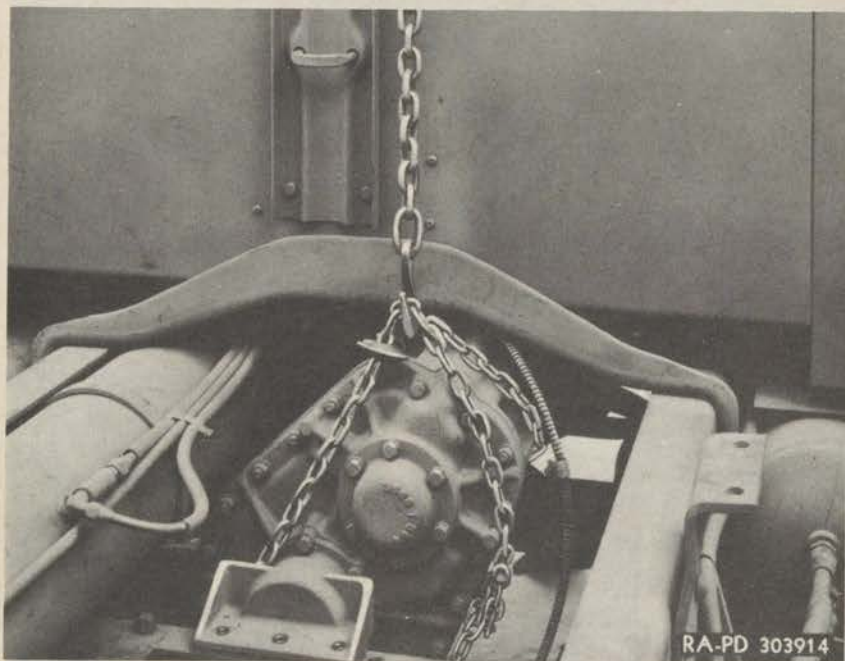

Figure 100—Lifting Transfer on Hoist
i. **Position Hoisting Chain.** Remove the cap screw holding the hand brake cable clip to the transfer case, and swing the cable and clip out of the way. Wrap a chain around the idler shaft rear bearing cap and the main shaft front companion flange. Attach this chain to a hook on the hoist, and lift a sufficient amount to cause a slight strain to permit of the removal of the mounting brackets (fig. 100).